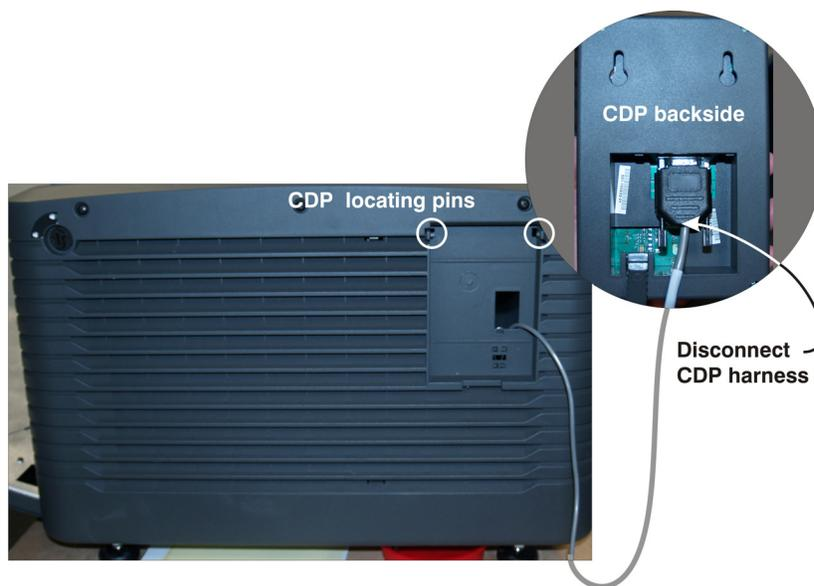

FIGURE 1-17 DISCONNECT CDP
2. Disconnect the CDP harness from the back of the CDP case. (Figure 1-17)